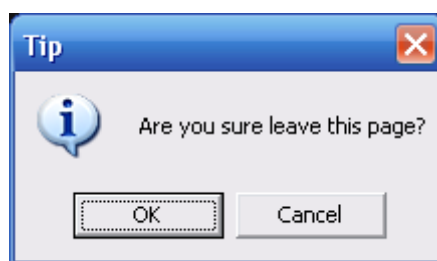

Figure 8-16
4) When you switch from Monitor to Search or Configuration, system pops a dialogue box asking you leave current interface or not. See Figure 8-16. Click the OK button, system will close current monitor window. For example, you click the Config button when you are monitoring, system pops up a following dialogue. Click the OK button, system closes current monitor interface and open the configuration interface. The monitor interface appears automatically after you close configuration interface. When you switch from Search to the Configuration interface, system also pops up the same dialogue box for your confirmation. Click OK button, you can see system close playback interface and open the configuration interface. Please note, system will not open the playback interface again after you close the configuration interface.